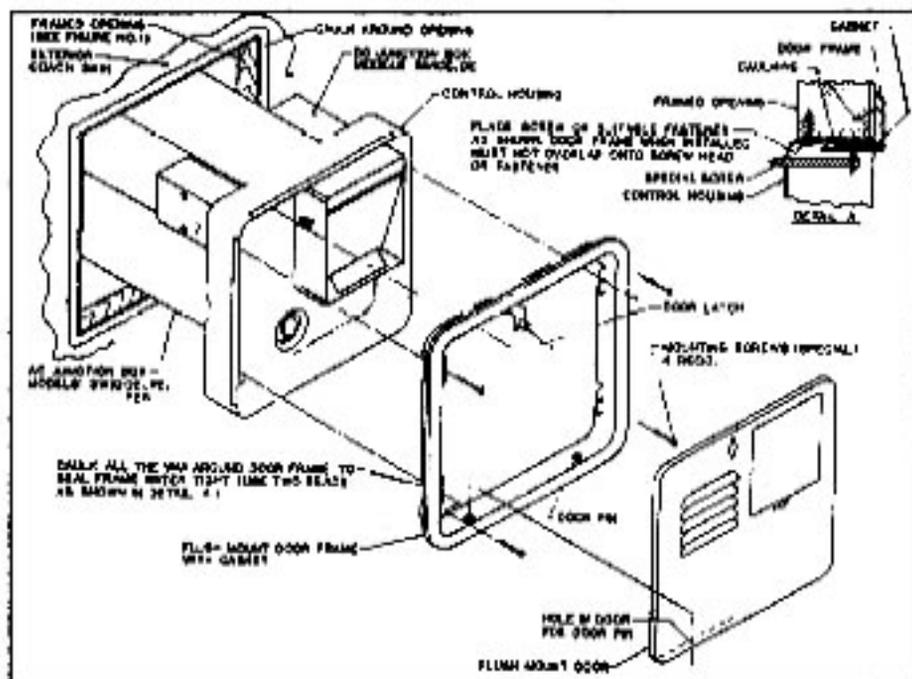

Figure 2
(See Figure 2 for Illustration)
B. Refer to Figure 2 for location of A.C. junction box on model SW10DE. Refer to Figure 5 for A.C. junction box on model SW10DEM.